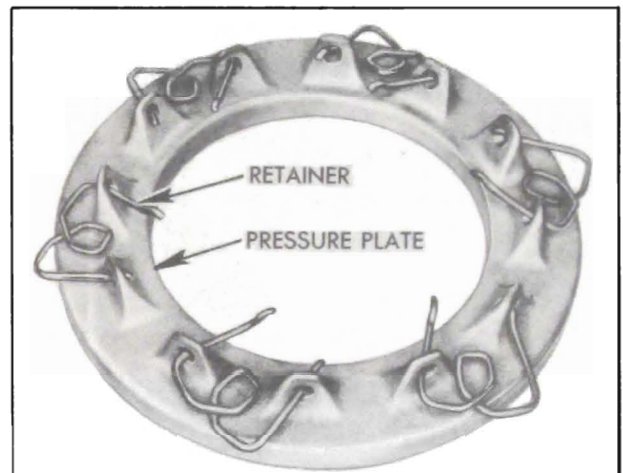

Figure 4-14—Positioning Spring Retainers—Series 40-50
4. Lift off clutch spring and remove retainers from pressure plate. See figure 4-14.
2. Install spring retainers through holes in pressure plate, with curves on ends upward, one end in toward center of plate and the other end out from center as shown in figure 4-14.